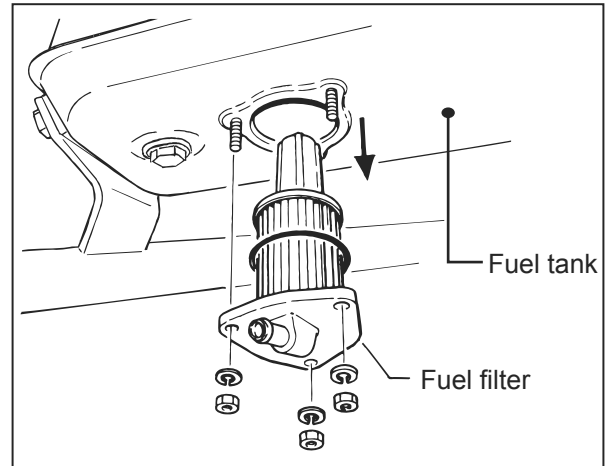

Fig. 7
- \* Remove the fuel filter cap and inspect clean fuel tank.(Fig.7)